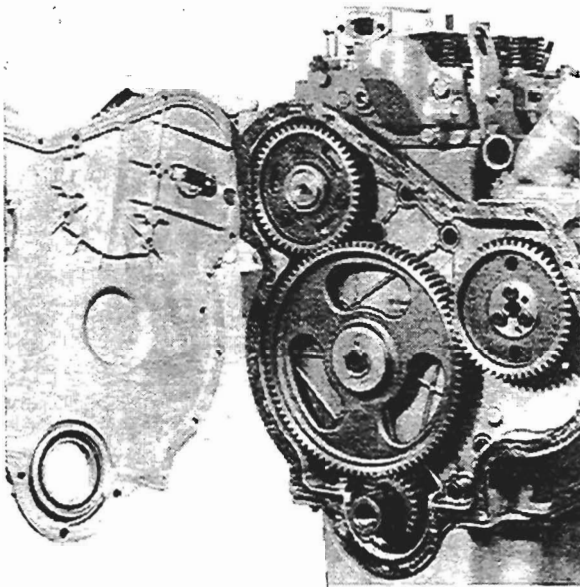

Fig. K1
7. Remove timing case cover (see fig. K1). Ensure that no damage occurs to the front oil seal.
The camshaft end clearance is controlled by a steel spring fitted to the inside of the timing case cover. This is shown in fig. K1.